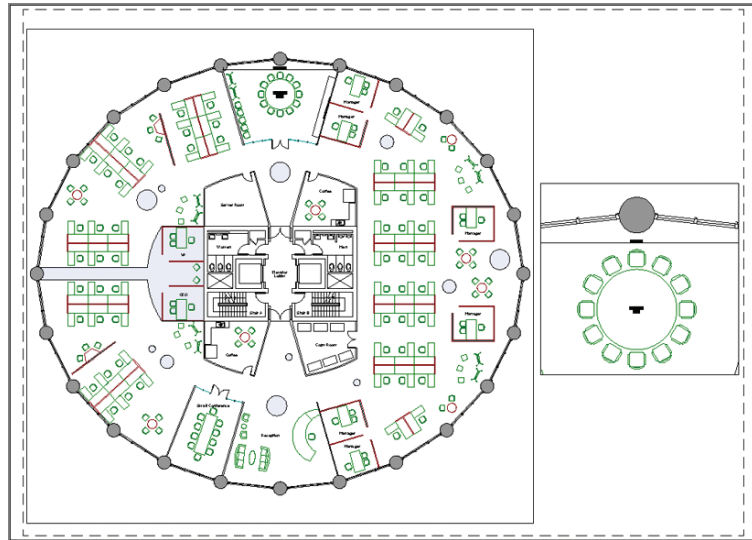

FIGURE 13.18 Creating and configuring a new viewport detailing the Conference Room
11. Double-click within the new viewport to enter its modelspace. Select $1/2" = 1'-0"$ (or 1:20 in metric) in the Viewport Scale menu on the status bar; the viewports zoom into the Elevator Lobby again. Pan downward until you center the view on the Conference Room. Double-click outside the viewport to return to paperspace. Figure 13.18 shows the result.